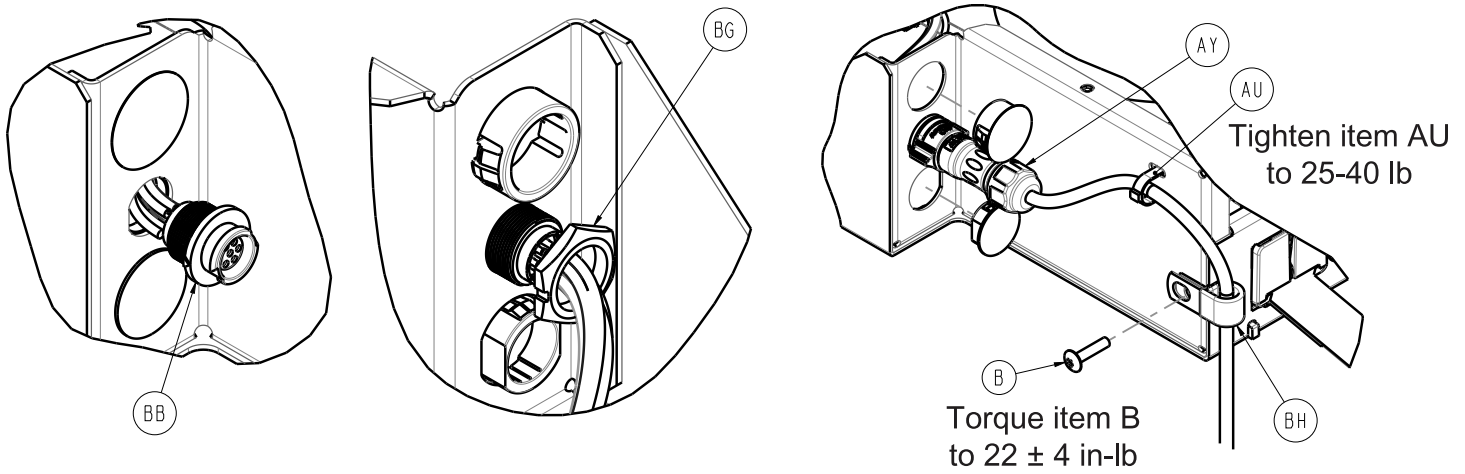

Figure 15 – Magnetic break away cable
7. Using diagonal pliers, cut the cable tie (AU) that secures the magnetic break away cable side A (297300560804) (AY) to the foot box (Figure 15). Discard the cable tie.